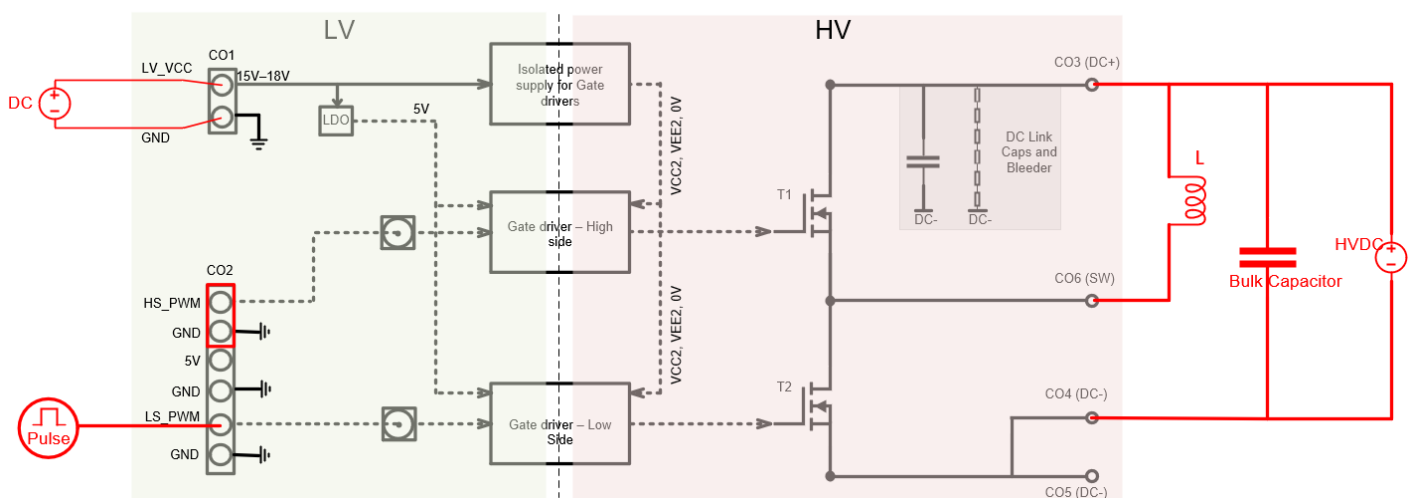

Figure 12: Double pulse test set up for low side device characterization
The board can be used for performing simple double pulse tests for switching loss measurement of the SiC MOSFET and also to evaluate the body diode behavior. Figure 12 shows the setup of the board for characterization of low side SiC MOSFETs.
- Choose the input capacitor, output capacitor and inductor as per requirement. Check the connections of input, output capacitors, inductor and load for each of the topologies as shown in Figures 12, 13 and 14